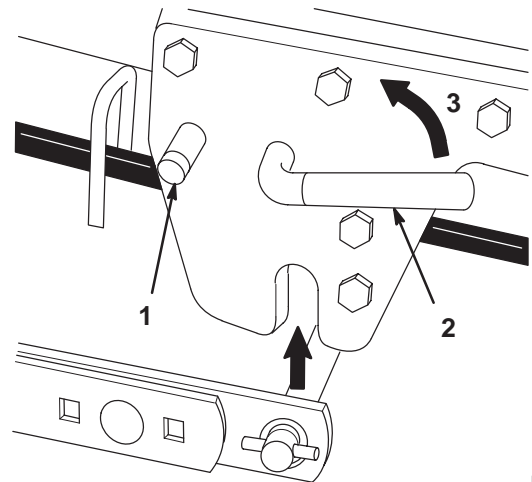

Figure 12
7. Turn the lever of the Attach-A-Matic™ counterclockwise to lock the mower to the tractor (Fig. 12).